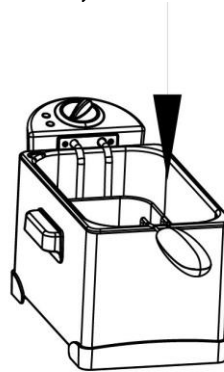

Fig. 7
- 1. Storage lid (see fig. 7)
7. For storage fit the lid, the smaller pair of grooves should be towards the front and when correctly fitted the lid will be flush with the edge of the oil tank (fig.7 & 8).
- How to fit the lid – See fig. 7 & 8